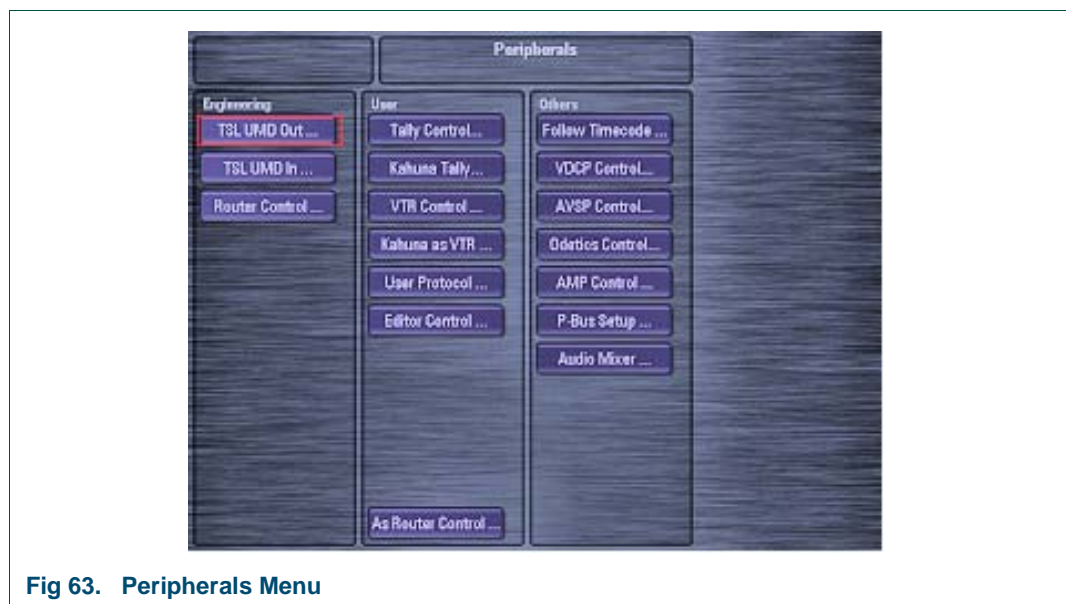

Fig 63. Peripherals Menu
- Touch the **[PERIPH]** button on the GUI, and then touch the **{TSL UMD Out...}** button (Fig 63.).